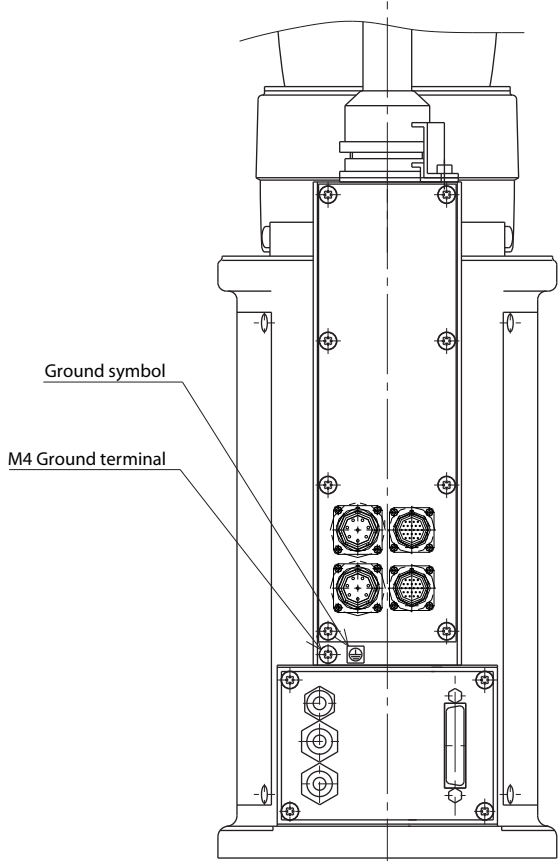

Fig. 3-7 Ground terminal
- 1) Provide a terminal marked "PE" for the protective conductor of the entire system and connect it to an external protective conductor. In addition, securely connect the ground terminal on the robot pedestal to the same protective conductor. (See Fig. 3-7)